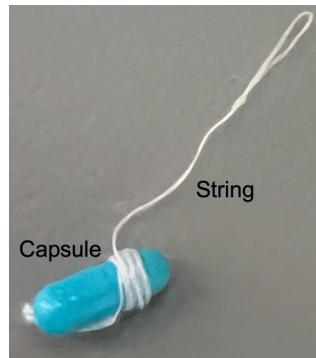

Figure 1. EnteroTracker® Capsule
The EnteroTracker® capsule allows physicians to collect biofluid samples from the upper gastrointestinal (GI) tract. The device is comprised of an ingestible capsule that contains a weighted ball and a highly absorbent nylon string (see Figure 1). The looped portion of the string is secured externally to the patient's cheek with the supplied Tegaderm™.